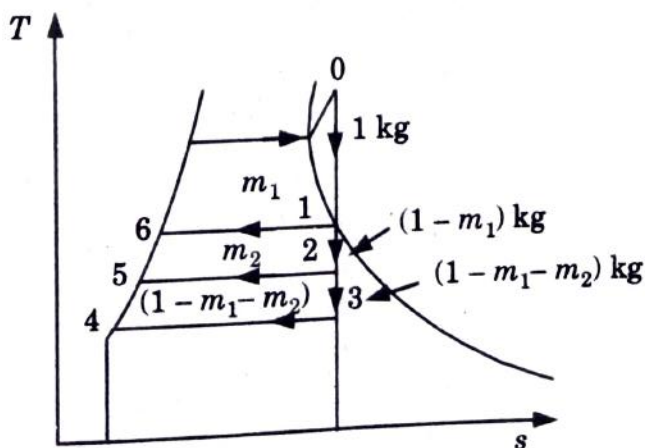

Fig. 2.6.2. T - s diagram of regeneration cycle.
- The flow diagram of regenerative cycle is shown in Fig. 2.6.2 on T - s diagram.